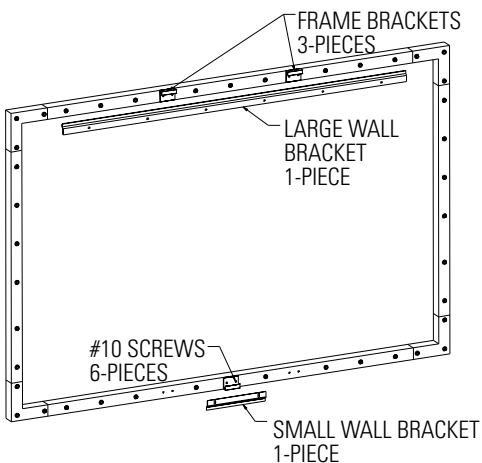

FIGURE 2
1. Use the supplied #10 screws to attach three frame brackets to the back of the frame as shown in Figure 2.